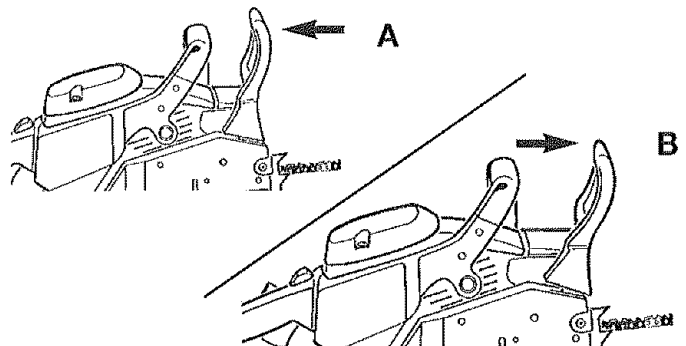

Fig. 30
1. The Chain Brake® is **DISENGAGED** (chain can move) when **BRAKE LEVER IS PULLED BACK AND LOCKED** (A, Fig. 30).
2. The Chain Brake® is **ENGAGED** (chain is stopped) when brake lever is in forward position. You should not be able to move chain with gloved hand. (B, Fig. 30).